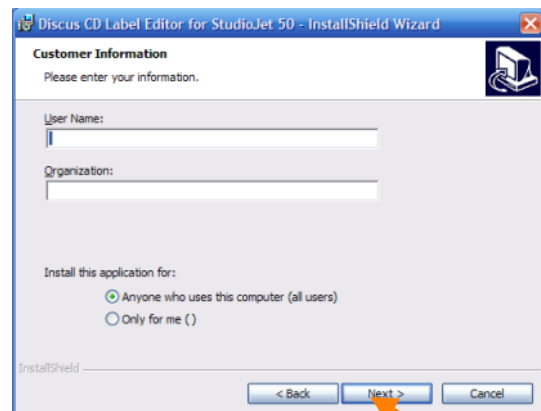

Figure 2.19
4. Enter a User and Organization Name (Optional, you may leave these blank), and then click **Next** (Figure 2.19) The install wizard will copy the necessary files to your computer. This may take a few minutes.